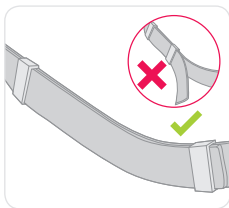

Figure 16
- Use the plastic sliders to secure any free strap. (Figure 16).